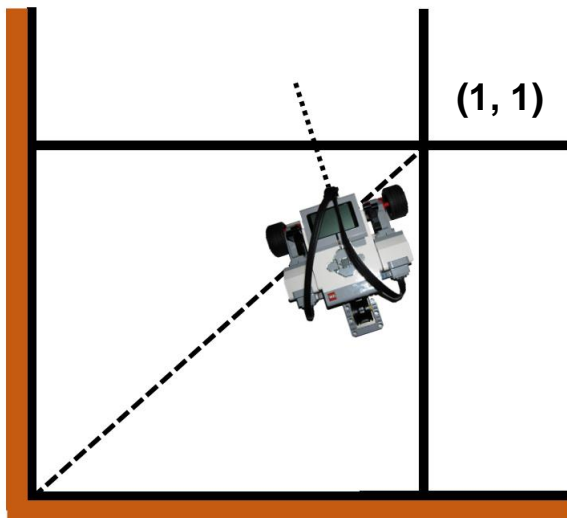
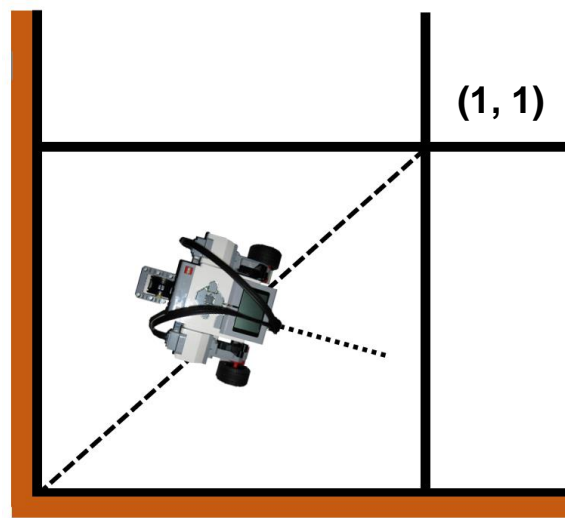

Figure 1. Robot's Starting Orientation A.
Figure 2. Robot's Starting Orientation B.
As shown in **Figure 1**, the robot is placed along the 45° line (thick dotted) inside the bottom-left tile of the 4x4 field grid. The **brown-colored** walls represent walls used for the **ultrasonic localization**. Please note that the robot could be placed in **ANY ORIENTATION** and **POSITION** along this 45° line. For example, **Figure 2** shows another orientation and position of the robot's starting position compared to that in **Figure 1**.
After the measurement is complete, the robot should then move to the (1, 1) point as shown in **Figure 1** and **Figure 2**. Once **light localization** is performed at this point, two error quantities are measured by the TA: the **Euclidean distance error** ϵ between the robot's actual position (X_F , Y_F) and the (1, 1) point, and the **orientation error** with respect to the 0° axis.
1. Place the robot in a tile corner along the 45° line (**Figure 1**), where two walls are present.
1. **Do I need to implement my robot's localization routines using the same 0° axis shown in Figure 1 and Figure 2 (that is, along +y axis)?**